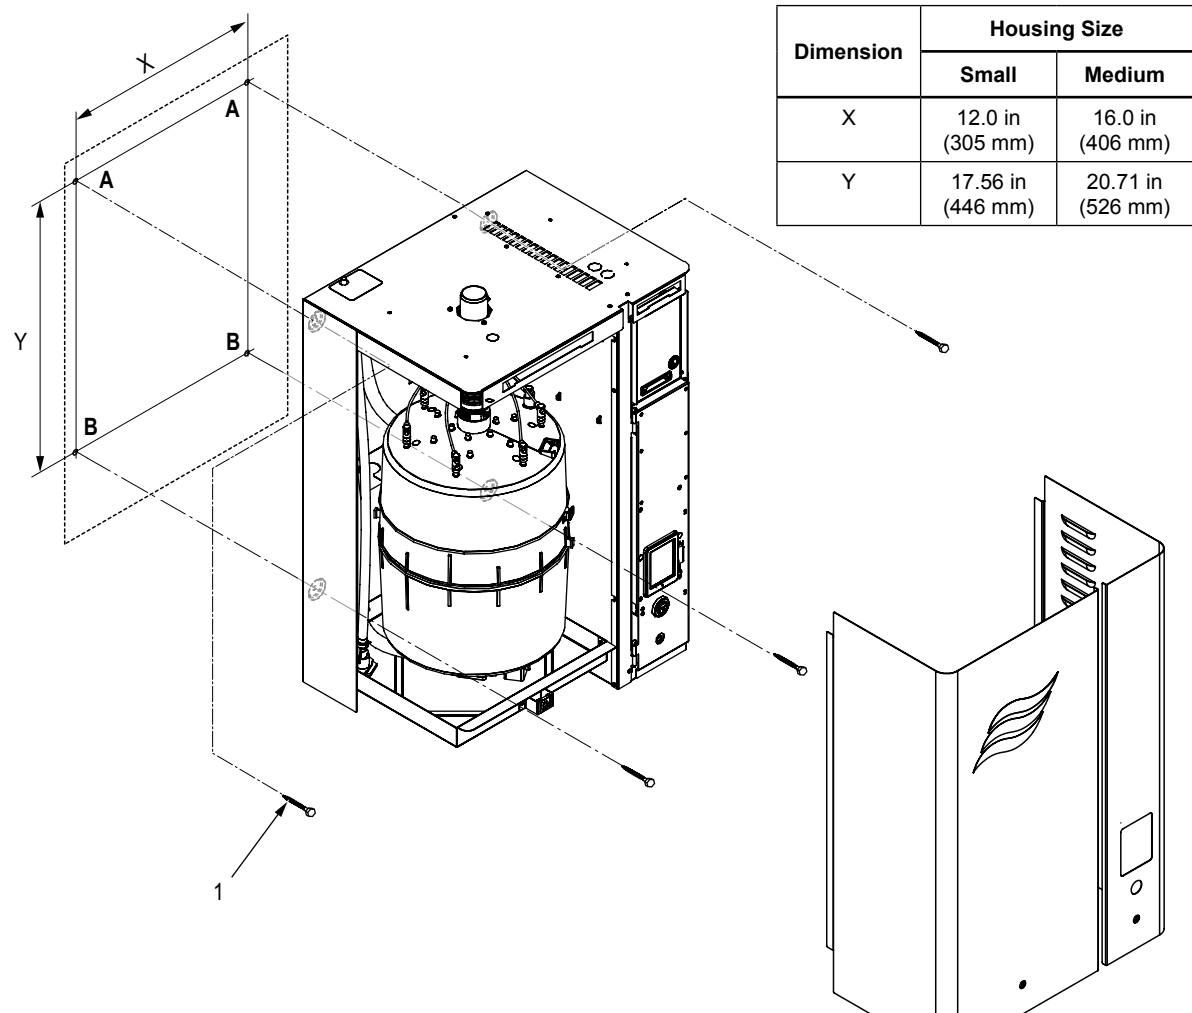
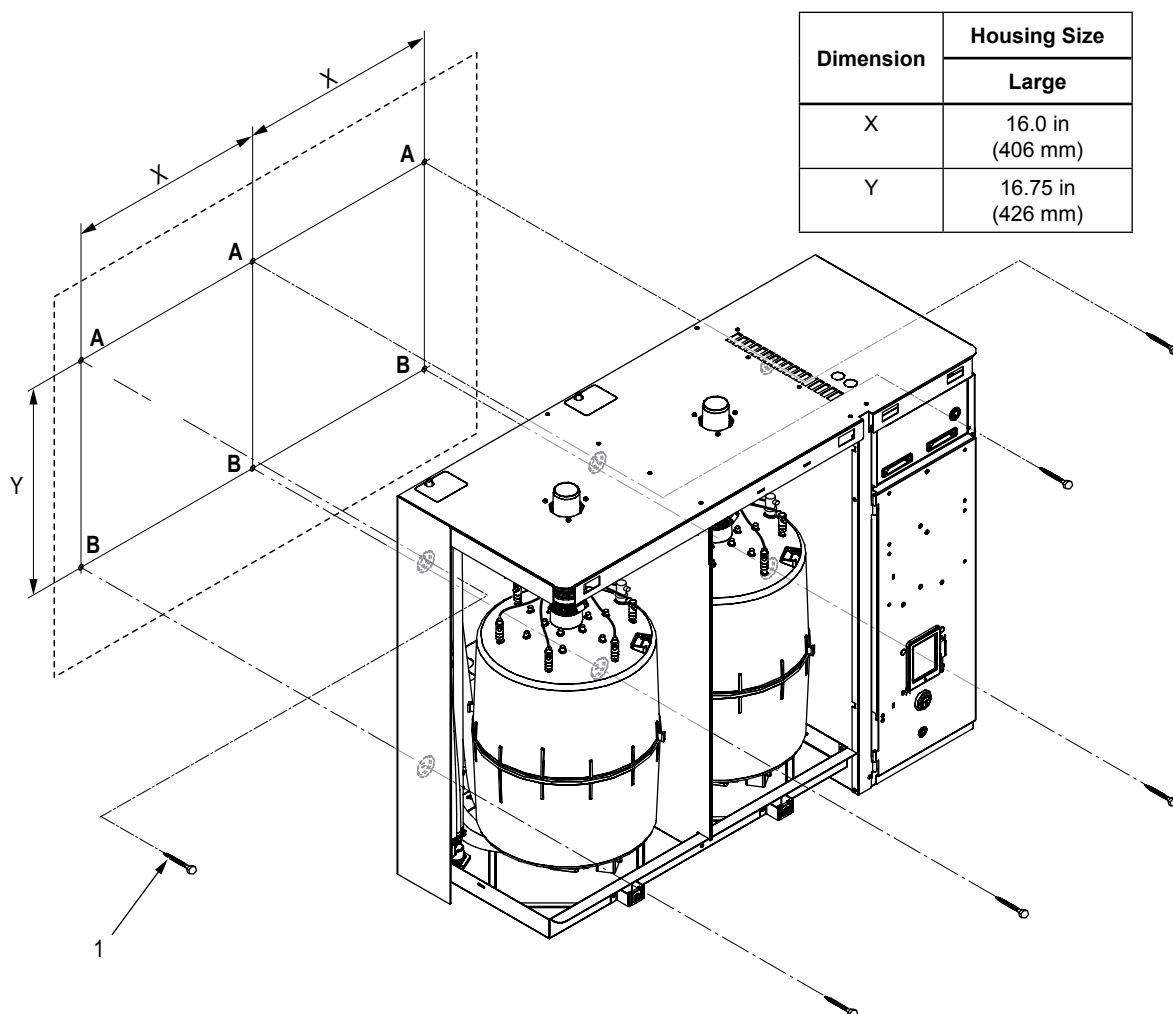

Figure 7: Standard Mounting, Small or Medium Housing
Figure 8: Standard Mounting, Large Housing
- 1. Locate 2×4 wooden studs or equivalent support in the mounting surface, and mark the attachment points “A” and “B” at the desired position with the help of a level. For small or medium housing refer to *Figure 7*. For large housing refer to *Figure 8* on page 19.